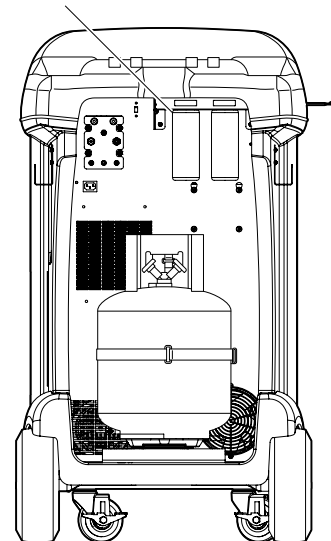

Figure 6
3. Dispose of any oil in the drain bottle according to applicable regulations. See Figure 6.